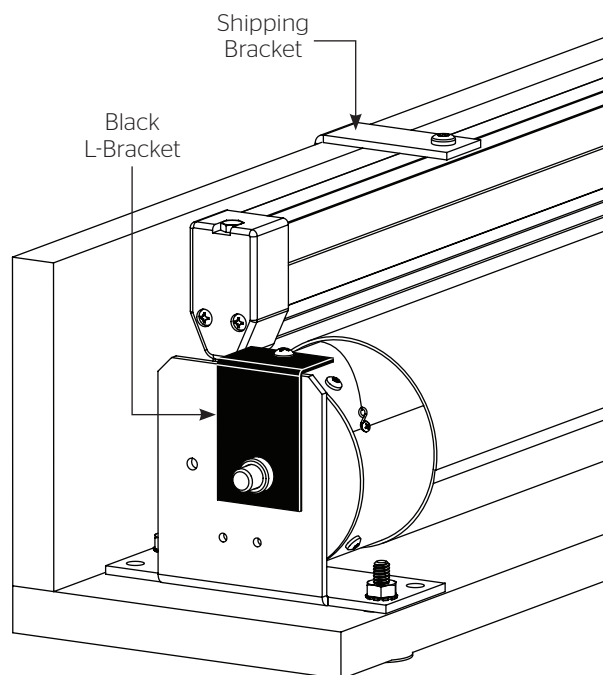

Figure 11
3. Remove the black L-bracket from pin end of roller (Figure 11).
4. Unscrew shipping brackets from slat and gently lay slat behind roller (Figure 11).
15. Re-attach the black L-bracket on the pin end of the roller (Figure 11).